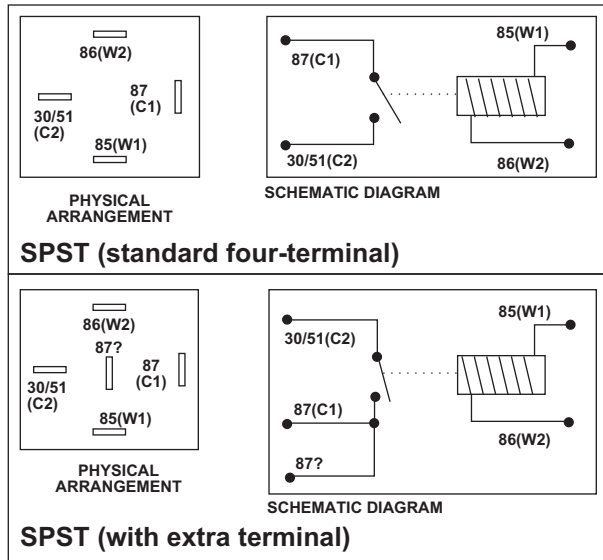

FIGURE 4
**Figure 4**, below shows two types of replacement SPST relays that are available in most auto parts stores. In this figure, I have labeled the terminal with both the industry standard for automotive relays, and, in parentheses, the equivalent Lucas identifiers.